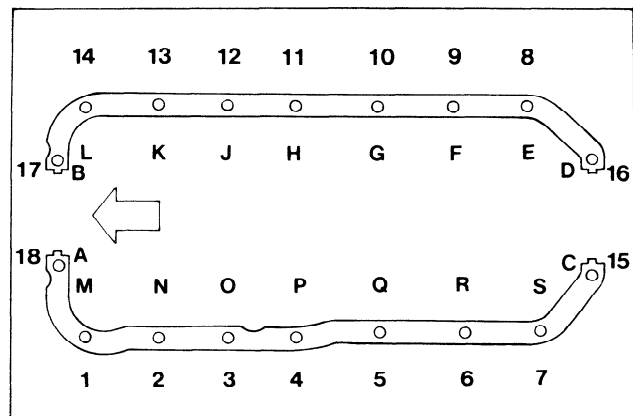

FIG. 39 Oil Pan Bolt Tightening Sequence
9. Position a new gasket on the block flange using an oil resistant sealer compound at each end. Position the end seals chamfered ends into the groove, again using an oil resistant sealer at the ends and install the oil pan. Tighten the oil pan bolts to the correct torque, FOLLOWING FIRST THE ALPHABETICAL, THEN THE NUMERICAL SEQUENCES SHOWN IN Figure 39.
- Position the end seals with the chamfered ends into the grooves, again using an oil resistant sealer. Position the oil pan and tighten the bolts evenly to specifications following first the alphabetical, then the numerical sequences shown in Figure 39.